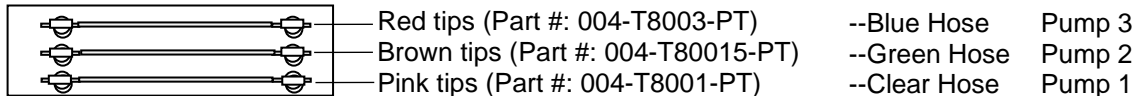

Figure 17
- Locate the three 1/4" (7mm) hoses colored clear, blue, and green. The pumps will need to be connected to specific tips (figure 17 and 18) so the pump numbers are as follows: Pump 1 is closest to the filter bowl, pump 2 is in the middle, and pump 3 is the outside pump.